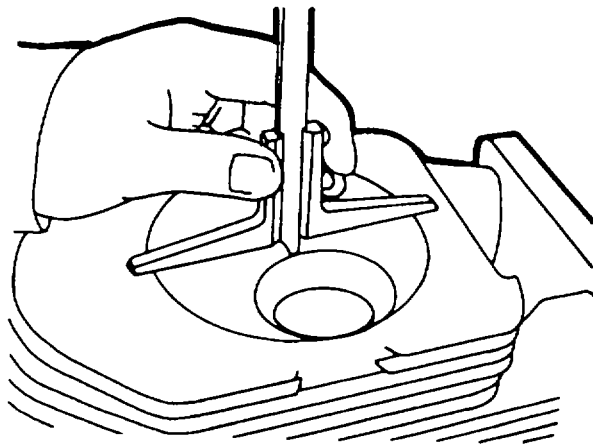

Figure 5-71. Checking the Cylinder Head Seating Surface
- c. Check the cylinder head seating surface (figure 5-71). It must be flat and square. It can be refaced provided the distance from the cylinder head sealing surface to the cylinder head crown is not less than the low limit given in the specifications.